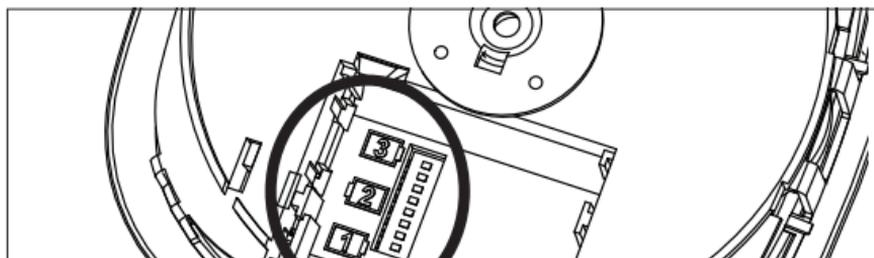

Figure 1
2. Find the eight-position DIP switch located inside the battery compartment (see Figure 1).